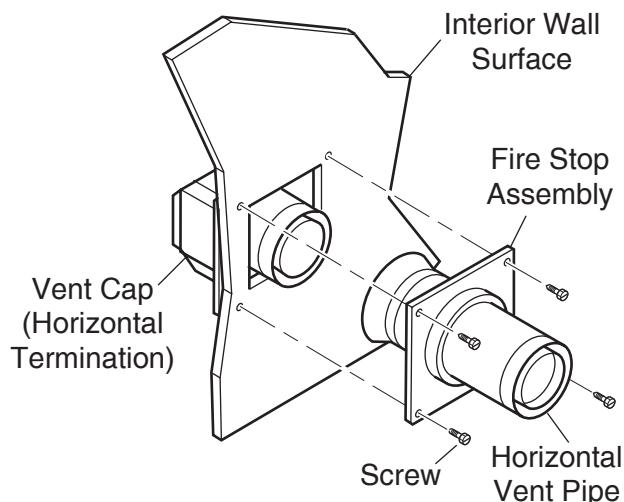

Figure 20 - Connecting Vent Cap with Horizontal Vent Pipe
5. Slide the wall thimble over the vent pipe before connecting the horizontal run to the vent cap. See Figure 20.
7. Slide the wall thimble against the interior wall surface and attach with screws. See Figure 20.